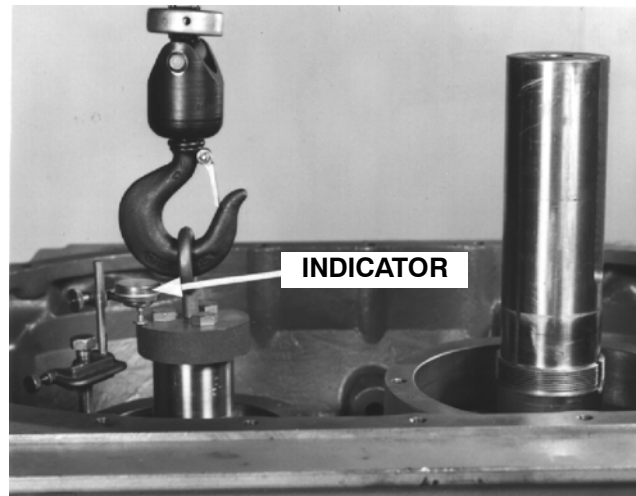

FIGURE 12
12. With the dial indicator attached as shown in FIGURE 12, page 31, check the total end clearance. Set the indicator on zero and lift the rotor with a hoist until the end of the rotor strikes the face of the discharge end bearing carrier. The reading of the indicator will be the total end clearance and should match dimensions listed in